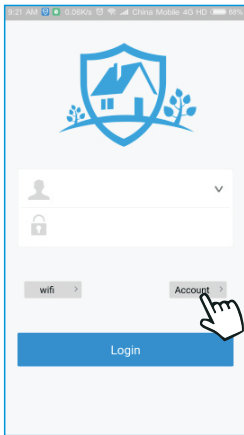
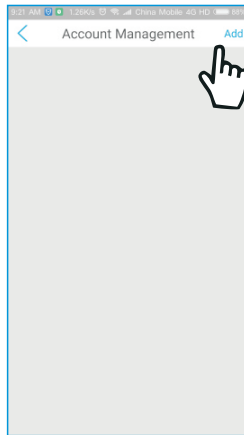
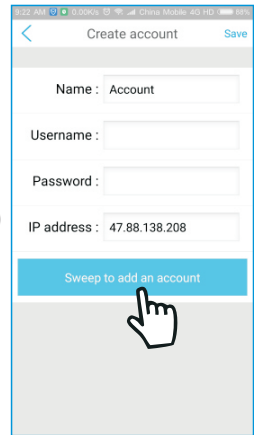
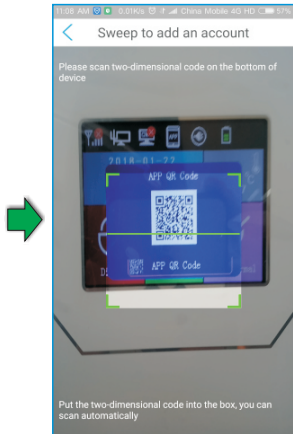

Figure 8-1
Figure 8-2
Figure 8-3
Figure 8-4
- B. Click "Account" - "Add" - "Sweep to add an account" - "Scan QR Code of panel"; (as shown in Figure 8-1, Figure 8-2, Figure 8-3, Figure 8-4 )